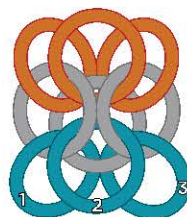

FIG. 3
4. Arrange the top 3 (orange) jump rings and the bottom 3 (blue) jump rings as shown in figure 3. Attach the starting aids (**FIG. 4**).